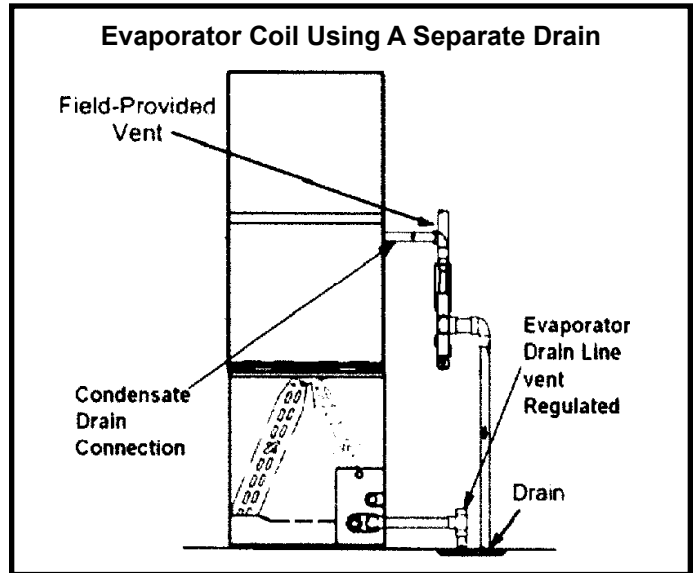

Figure 34
5. Figure 34 shows the furnace and evaporator coil using a separate drain. If necessary the condensate line from the furnace and evaporator coil can drain together. See Figure 35. The field provided vent must be minimum 1" to a maximum 2" length above the condensate drain outlet connection.